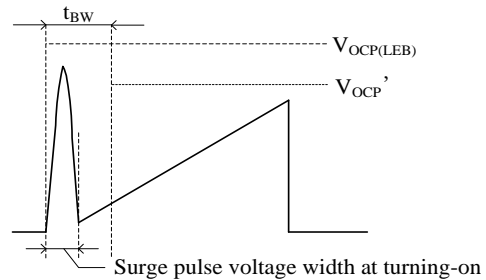
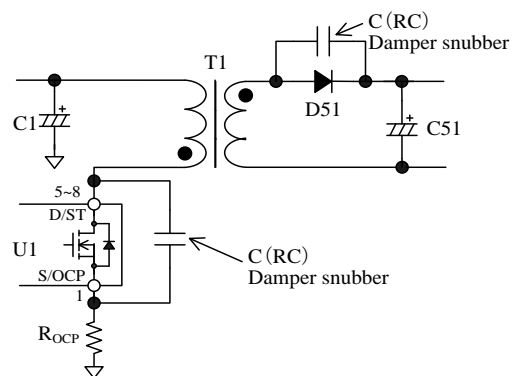

Figure 10-9. S/OCP Pin Voltage
Figure 10-10. Damper Snubber
During Leading Edge Blanking Time, the OCP threshold voltage becomes $V_{OCP(LEB)} = 1.69\text{ V}$ which is higher than the normal OCP threshold voltage as shown in Figure 10-9. Changing to this threshold voltage prevents the IC from responding to the surge voltage in turning-on the power MOSFET. This function operates as protection at the condition such as output windings shorted or unusual withstand voltage of secondary-side
When the power MOSFET turns on, the surge voltage width of the S/OCP pin should be less than t_{BW} , as shown in Figure 10-9. In order to prevent surge voltage, pay extra attention to R_{OCP} trace layout (refer to Section 11.2). In addition, if a C (RC) damper snubber of Figure 10-10 is used, reduce the capacitor value of damper snubber.